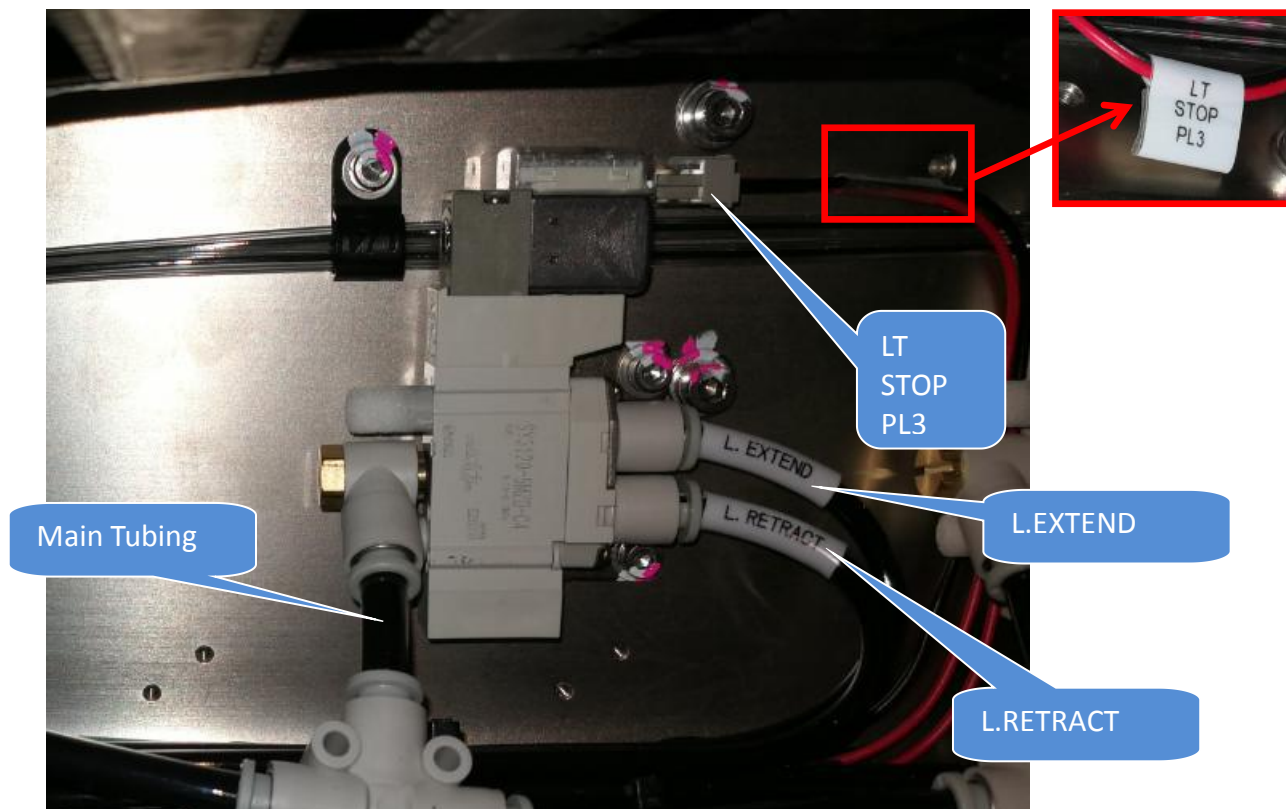

Figure 9 Left PIP Pneumatic Valve Assembly
- Connect Solenoid Valve Cable by refer to Label “ LT STOP PL3” as below Figure 9
- Connect 2 x Tubing respectively by refer to “L.EXTEND” & “L.RETRACT” as below Figure 9
- Connect Main tubing as below Figure 9